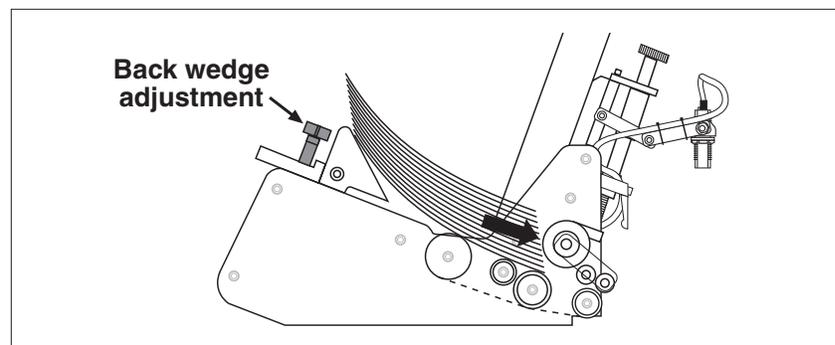

Figure 22. Positioning Material Prior to Loosening Back Wedge
2. Place the preshingled material in the hopper so that the edges rest against the curvature of the gate assembly (Figure 22).
3. Turn the back wedge knob counter-clockwise to loosen the wedge (Figure 22).